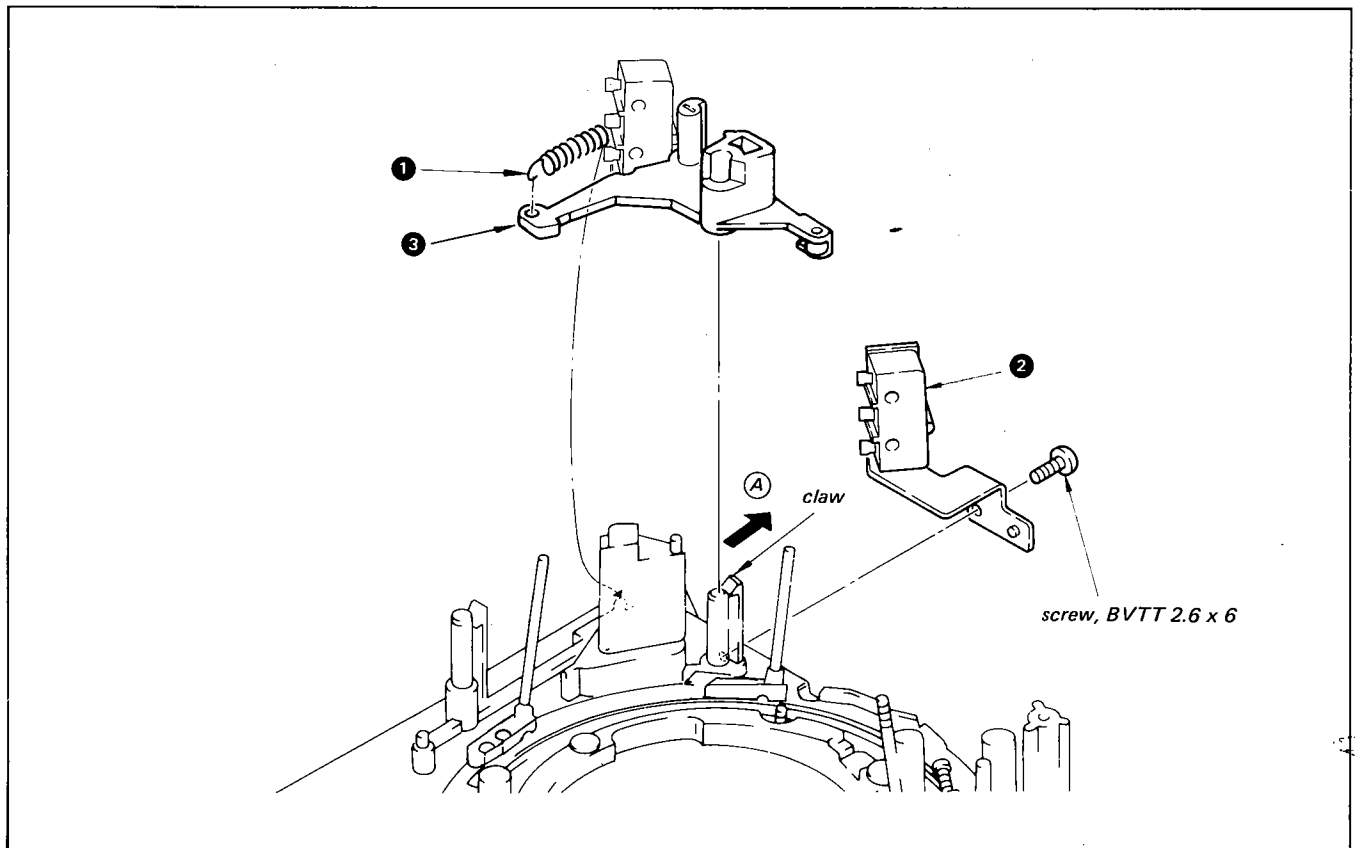
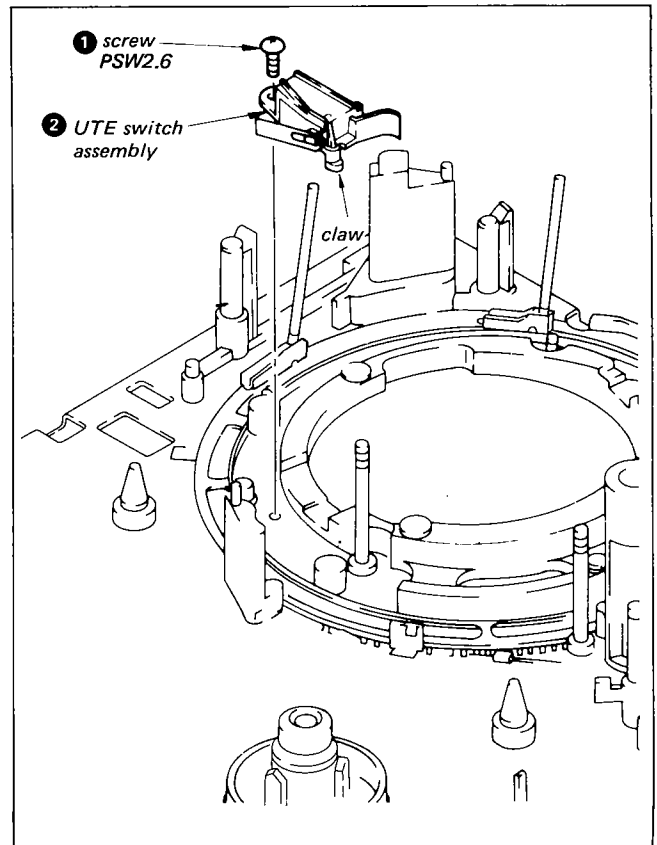

Fig. 3-26. Removal of the TE switch assembly and lock arm assembly
Fig. 3-30. Removal of the UTE switch
- 1 Remove the tension coil spring from the lock arm assembly (refer to Fig. 3-26 in section 3-11-1).
- 2 Turn the stop washer and remove the ring roller (B).
- 3 Remove the group of parts in the unthreading end switch (for instructions on assembly and disassembly, refer to section 3-11-2 and Fig. 3-30).
- ① Remove the screw, as shown in Fig. 3-30.
- ② Remove the claw of the switch from the chassis, and then remove the main body of the switch while holding the actuator in the ON position.